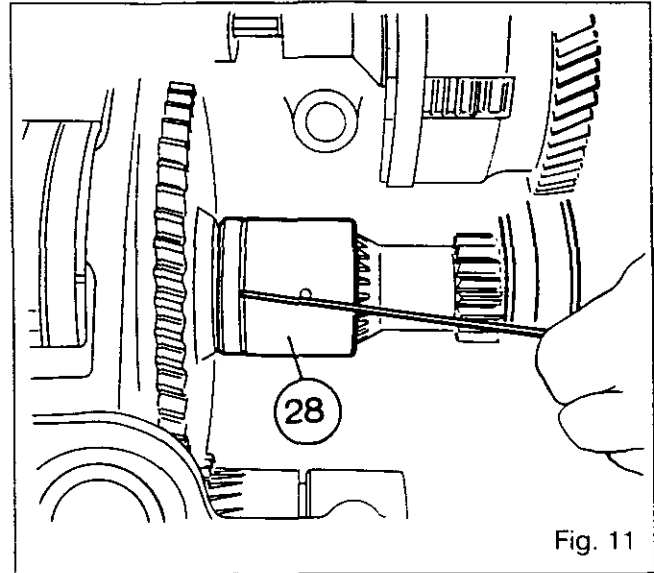

Fig. 11
**Note :** Position the grooved end of the sleeve (28) towards the rear of the tractor (Fig. 11).